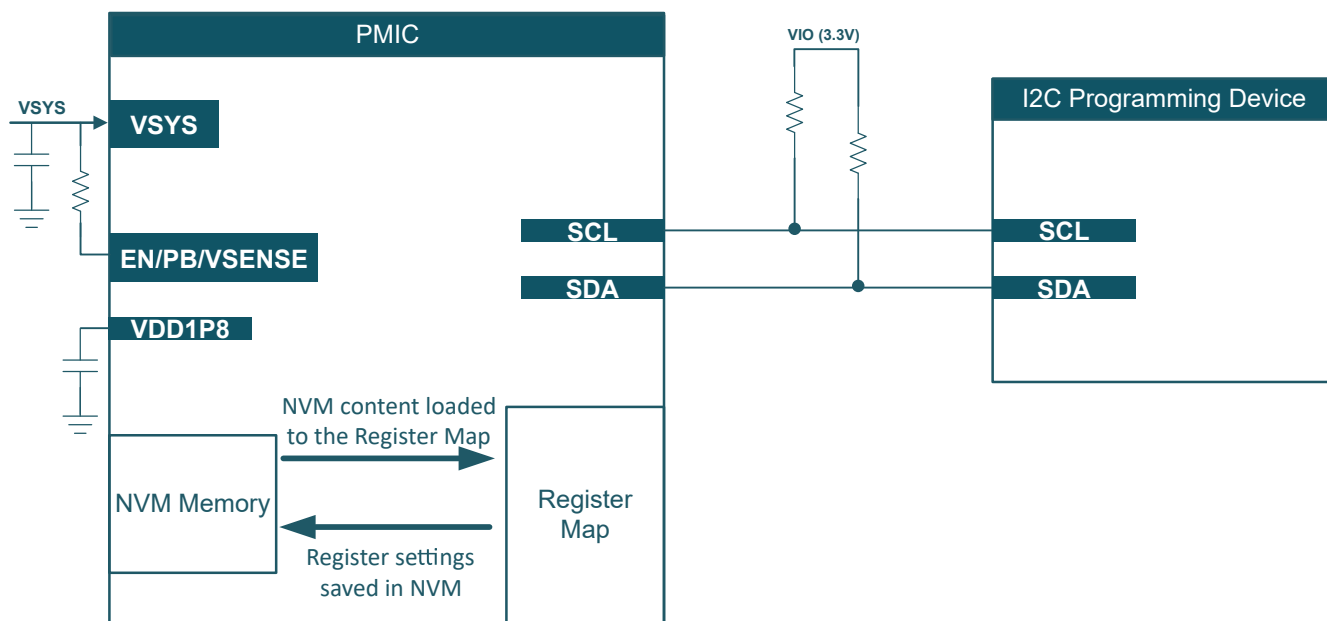

Figure 2-1. Hardware Setup for NVM Programming
The PMIC has two memory spaces, the register map space and the NVM space. Re-programming the NVM is done by first writing to the register map through the serial interface (I2C) and then saving the register settings into the NVM. Because the configuration first involves writing to the register map, which controls the regulator and digital pins, there must be no dependency or need to use the PMIC resources. For example, an external power supply must be used to supply the pull-up resistors of the I2C pins instead of using one of the PMIC power resources while reprogramming the NVM. Table 2-1 and Figure 2-1 show the minimum hardware requirements for the hardware setup between the PMIC and the programming device.
- **Production line:** PMIC NVM can also be re-programmed in a production line following the Figure 2-1 before soldering the device into the final PCB.